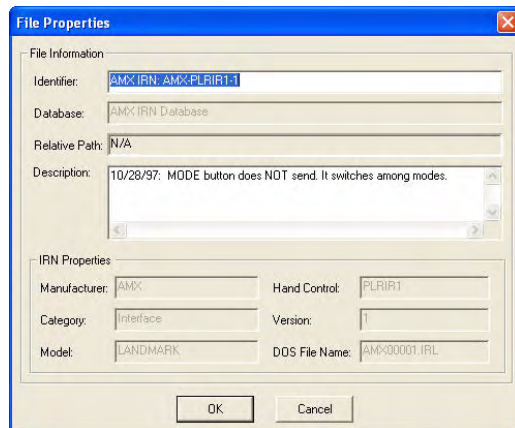

FIG. 85 File Properties window
4. In the **File Properties** window (FIG. 85), verify the Identifier and Description information (in the only two fields with editable data) and click OK.